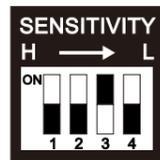

Fig. 1
3. The Sensitivity DIP switch is set with switch 3 ON and switches 1, 2 and 4 OFF (70%; Figure 1); Fail Safe switch is set to FSL. Based on these settings and calibration at the factory the red Alarm LED should be illuminated and the green Normal LED will be off. The NC output contacts should be closed and the NO contacts should be open. Transistor outputs should be enabled. Next, set the Sensitivity DIP switch with 1, 2, 3 and 4 OFF. The red Alarm LED should be off and the green Normal LED should be illuminated. The NC output contacts should be open, the NO contacts should be closed and the transistor disabled. The Sensitivity DIP switches should be set according to the material dielectric constant.